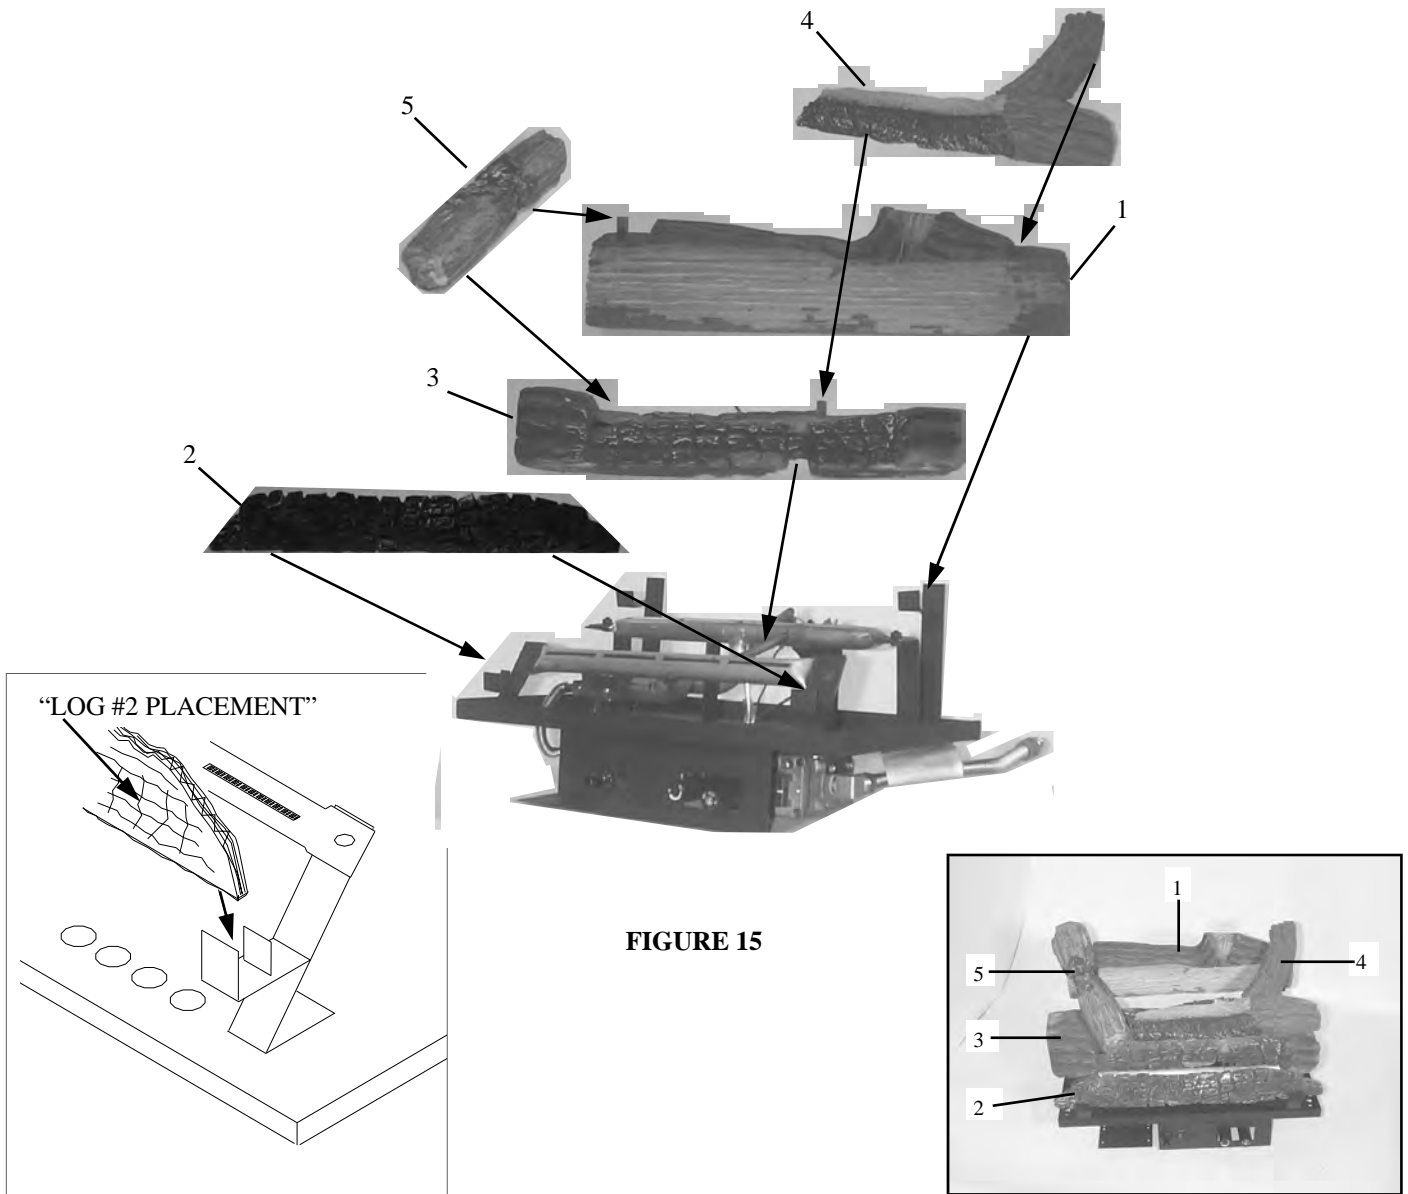

FIGURE 15
1. Carefully insert logs through opening in top of unit, placing logs on base as described on (Page 15, figure 15).
**WARNING: POSITIONING LOGS IS VERY CRITICAL (SEE FIGURE 15).